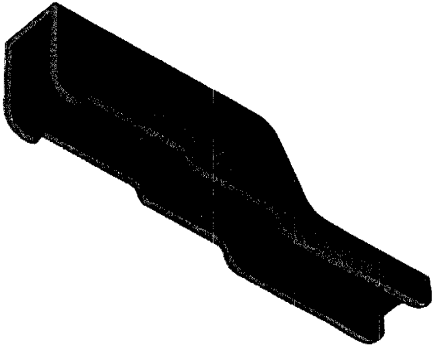

Fig. 22 — KS-16576, List 5 Designation Plate
- 6.15 The KS-16576, List 5 designation plate, Fig. 22, is a red plastic hood designed to cover the wire-wrap terminals on the jumper wire side of 300-type connectors.